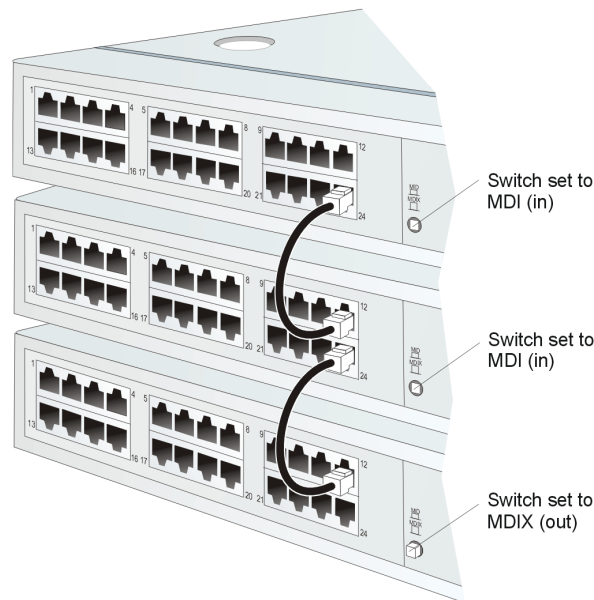

Figure 2-3 Patch Cable and MDI Selector Configuration
- c. Using a pencil or other pointed instrument, set the medium-dependent interface (MDI) switch on the top and middle hubs to **MDI (in)**. Set the MDI switch on the bottom hub to **MDIX (out)**. The configuration is shown in Figure 2-3.